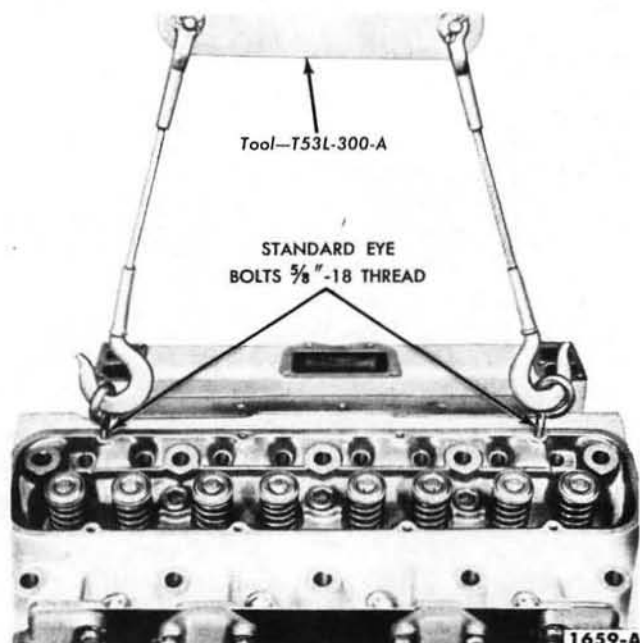

FIG. 20—Cylinder Head Removal or Installation
3. Install standard eye bolts with $\frac{5}{8}$ -18 threads in the cylinder head and attach the engine lifting sling (Fig. 20). Remove the remaining cylinder head bolts. Raise the cylinder head and carefully remove it from the engine.